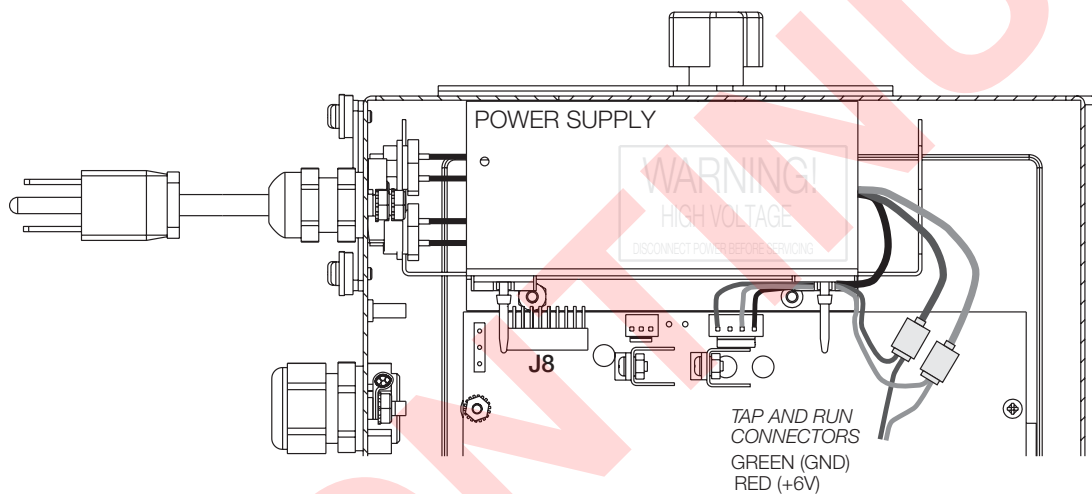

Figure 2-13. 920*i* Tap and Run Connector Installation
*iQUBE* installations that are remotely powered by the 920*i* indicator, and those that use the 920*i* internal fiber-optic module, require tap and run connectors to draw power from the 920*i* power supply (see Figures 2-13 and 2-14).